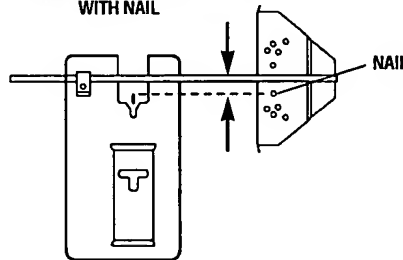

FIG. 15
3. Attach rip fence to saw with the edge guide facing UP. In order for the rip fence to cut a circle, the nail must be in alignment with the blade, as shown in (Fig. 15).